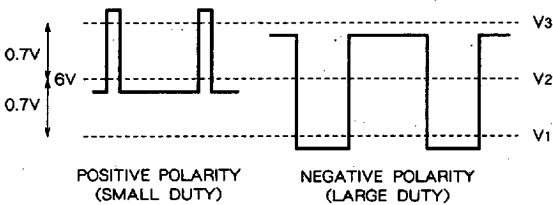
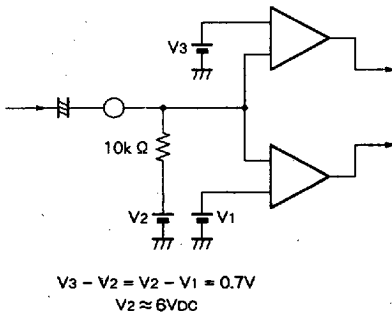
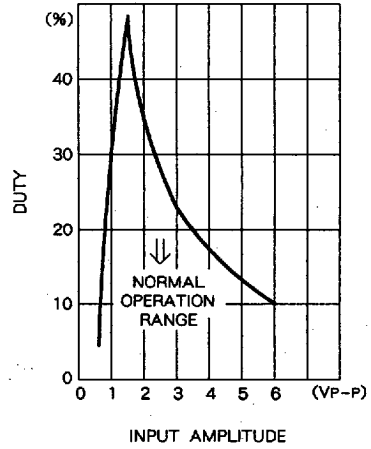

Fig. 1
Fig. 2
Fig. 3
composite sync input is connected to pin ⑥. For separate sync input, H is connected to pin ⑥ and V is connected to pin ⑧. The bias of pin ⑥ and pin ⑧ is 6V, and the impedance is 10kΩ. Waveform shaping and polarity detection are conducted by a built-in double threshold converter. The internal circuit is connected as shown in Fig. 2. The average DC voltage of input signals is called V2. Threshold voltages are adjusted to V2 ± 0.7V. Therefore, when the duty ratio is small as shown in Fig. 1, this IC works with an amplitude of approximately 0.7VP-P or more. When the duty ratio is large, the optimal amplitude is approximately 1.4VP-P. Fig. 3 shows allowable input duty reference measured values.